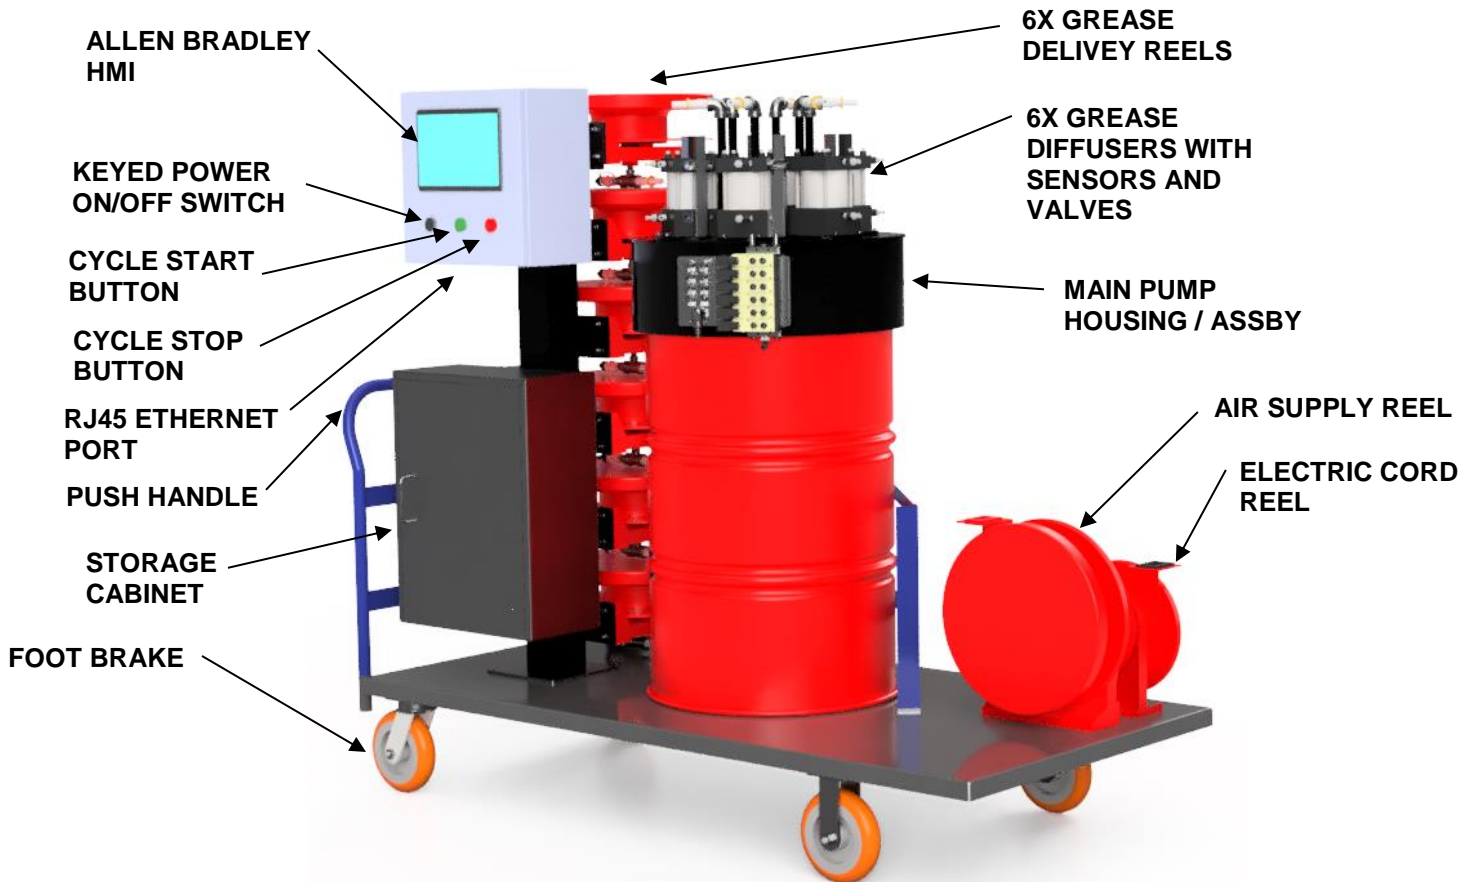

FIGURE 1
- 3.1.2 **IMPORTANT:** Each operator must become familiar with each component of the system and understand all aspects of operation and programming. See Figure 1.